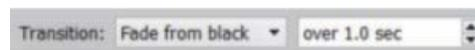

Figure 25
- Fade from black: After the previous keyframe, the view displays as black. It then fades into the current keyframe over a duration that you set using the setting to the right of the Transition drop-down list, as shown in Figure 25.